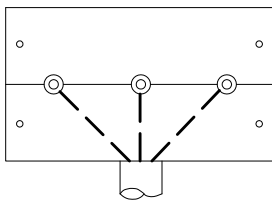

FIGURE 1
2. FIGURES 1 THROUGH 5 SHOW THE VARIOUS ARRANGEMENTS OF WIRES IN THE SERVICE HEAD. THE PHASE ARRANGEMENT SHALL PERMIT CONNECTION TO ComEd's SERVICE DROP WITHOUT CROSSING WIRES OUTSIDE THE SERVICE HEAD. (THREE-WIRE SERVICE IS SHOWN; FOUR-WIRE SERVICE TO BE ARRANGED SIMILARLY, SEE NOTE 4.)